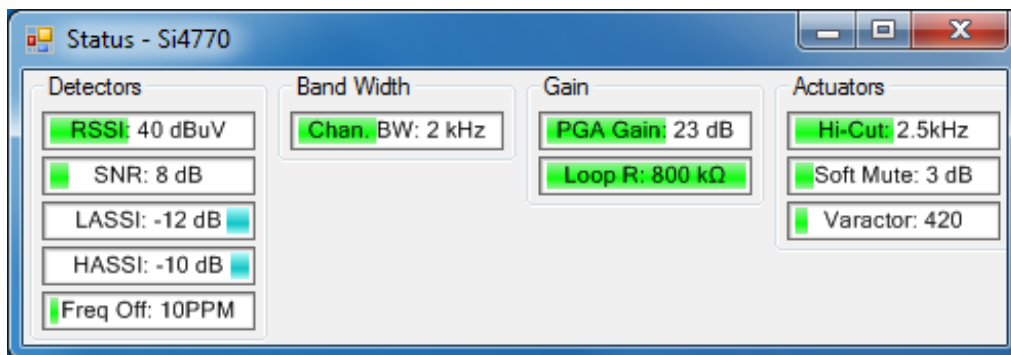

Figure 22. AM Status Indicator Window
9. **Status Indicator Undock:** Opens a separate window with status indicators, as shown in Figure 22. "AM Status Indicator Window".